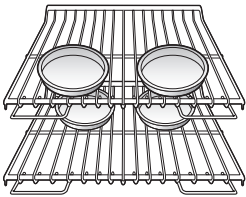

Figure 1
- For best baking results, pans should be centered on the racks. If baking with more than one pan, place the pans so that each one has at least 1" to 1 1/2" of air space around them. If cooking on multiple racks in the lower oven, place the oven racks in positions C and E. Place the cookware as shown in Figure 1.